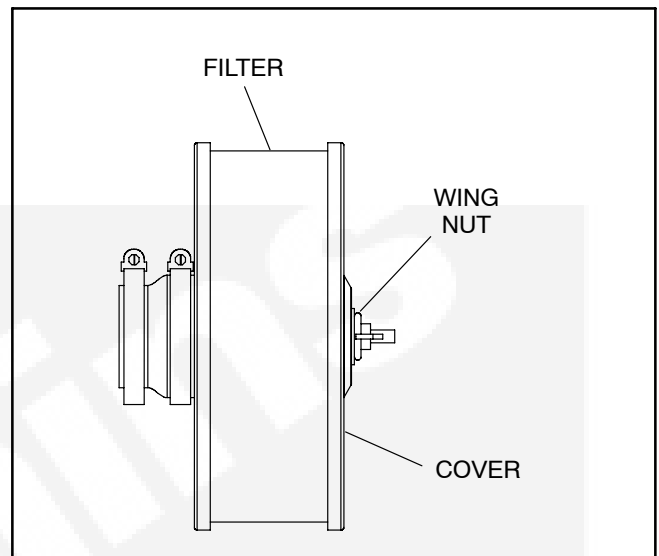

FIGURE 6-6. NORMAL DUTY AIR CLEANER
Normal Duty Air Filter (Figure 6-6)
1. Remove wing nut in center of filter cover (Figure 6-6).